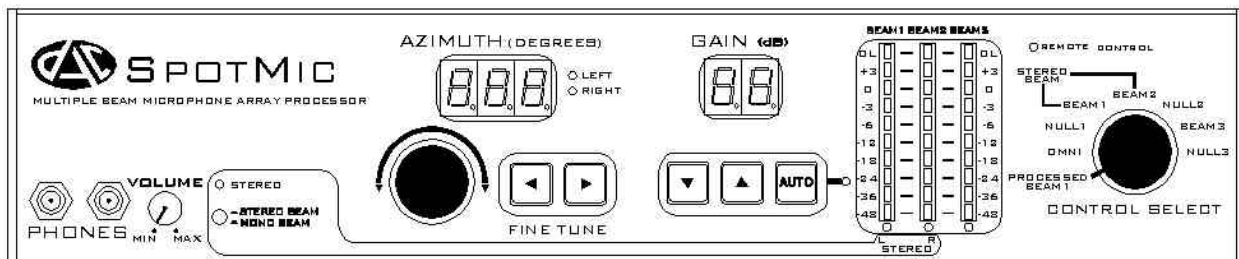

Figure 1-2: SpotMic Front Panel
The front panel controls provide for command of the three beams and are arranged into four main groups. The front panel of the SpotMic external processor appears in Figure 1-2.
3. Connect your stereo headphones to either of the two PHONES jacks on the SpotMic external processor front panel as shown in Figure 1-2. Turn the phones VOLUME control to MIN.